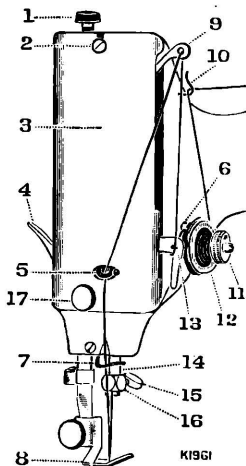
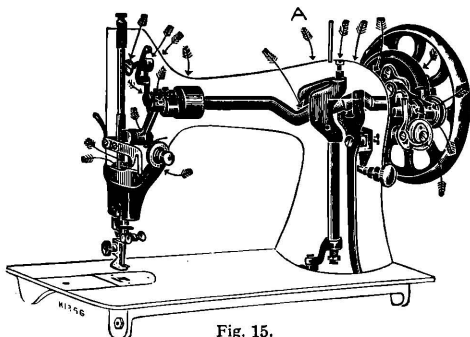

Fig. 5.
Fig. 15.
Tighten the balance wheel and place a piece of material under the presser foot (8, Fig. 5). Then lower the latter by means of the lifter (4, Fig. 5). Now **turn the handle over from you** to work the machine, without its being threaded, until you are accustomed to guiding the material with the left hand.
(See Fig. 5)
Loosen the balance wheel (see Fig. 3) and place a reel of thread on the spool pin. Place an empty bobbin on the spindle (1) and turn the former until the hole in its right side engages the pin in the spindle shoulder. Now pass the end of thread through the guide (10, Fig. 5), up into the eyelet (5), into the notch (2) and, from the inside, through the hole in the left side of the bobbin. Hold the end of thread with the left hand and with the right press the pulley (6) against the ledge of the balance wheel until the latch retains the winder in position. Turn the balance wheel over towards you a few times, then break off the end of
Raise the take-up lever (9, Fig. 5) to its highest and lift the presser foot (8, Fig. 5). Move the material back and to the left, and sever the threads by passing them over the thread cutter above the presser foot. Leave the ends of the threads a few inches long under and at the back of the presser foot.
For ordinary family sewing it is seldom necessary to change the pressure on the material. If sewing fine silk or flimsy material, lighten the pressure by giving the thumb screw (1, Fig. 5) two or three turns upwards. To increase the pressure, give the thumb screw a few turns downwards.
If used constantly, the machine should be oiled daily, while with moderate use, an occasional oiling is sufficient. A drop of oil applied at the points indicated by arrows in Figs. 15 and 16, is sufficient. To oil the needle bar mechanism, remove the face plate (3, Fig. 5) by taking out the thumb screw (17, Fig. 5) and loosening the small screw (2, Fig. 5). **It is most important that oil be applied to point "A" Fig. 15 when the take-up lever (9, Fig. 5) is at its lowest.** There are also two holes in the hand attachment to which oil should be applied occasionally. When oiling, insert the oil can spout well into the oil holes. Apply a drop of oil to the small piece of felt lubricating the oscillating hook and to the rollers at the right of the hook shaft.
The thread take-up spring (6, Fig. 5) is not broken.
Stitches Looping. See that the spring (6, Fig. 5) is not broken, that the upper and under tensions are equal (see page 12), that both bobbin case and needle are properly threaded, that the thread is of good quality and of correct size for the needle (see table on inside of back cover).